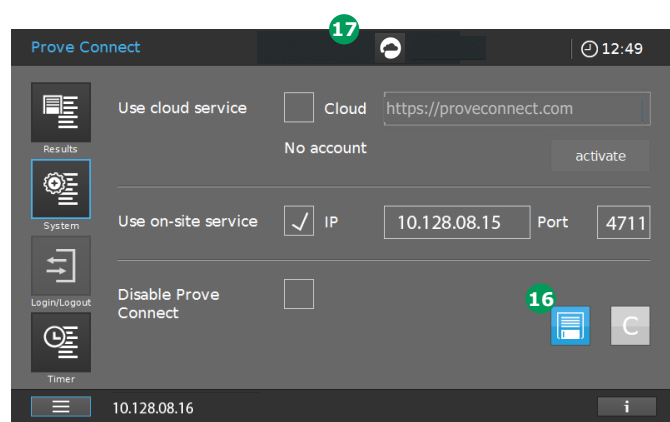

Figure 42 - Screen of Spectroquant® Prove with all network details
13. After setting all parameters (Checkmark, IP and Port) press the save icon 16 (Figure 42).
When the connection is established the cloud icon 17 appears in the instrument display (Figure 42).